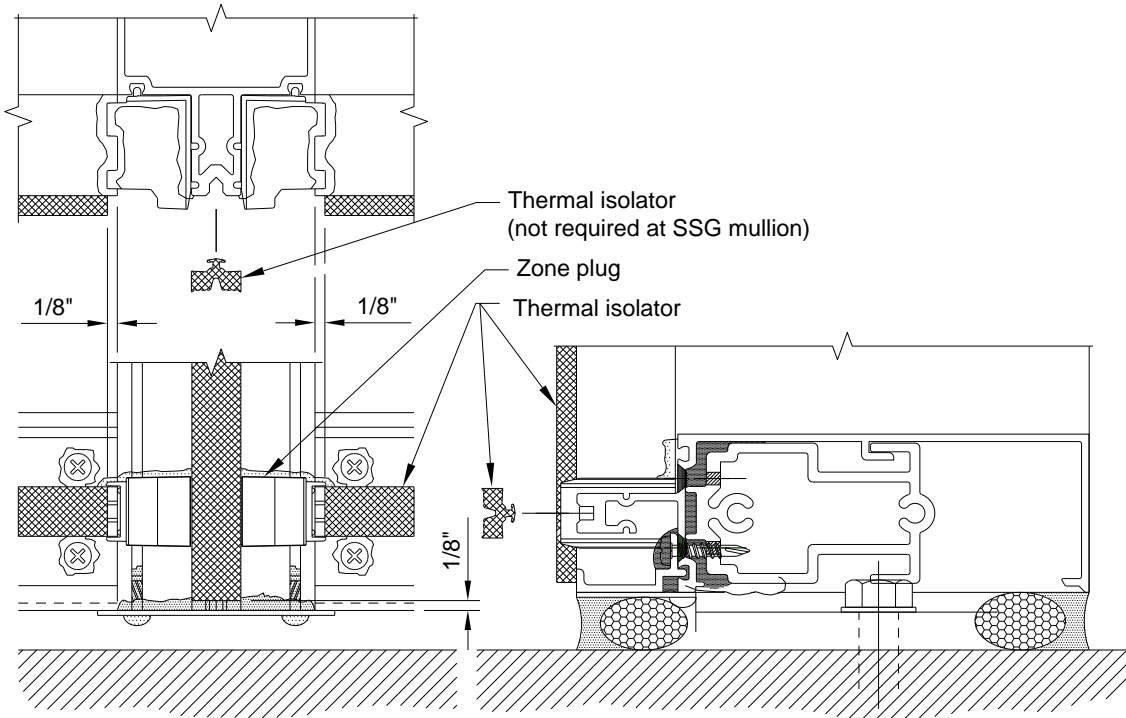

Figure 39: Thermal Isolator Installation
- 17.2 Install thermal spacer into groove on face of mullion tongues. Run through at vertical splice joints. Cut short 1/8" from each end of the mullion. See Figure 39.